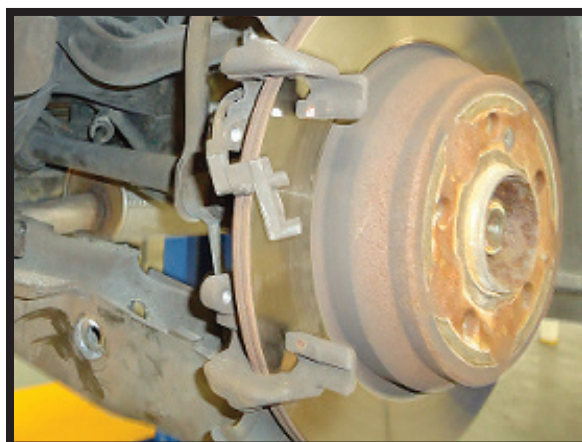

FIGURA 10
10. FIJE LA PINZA DE FRENO. (FIGURA 10)